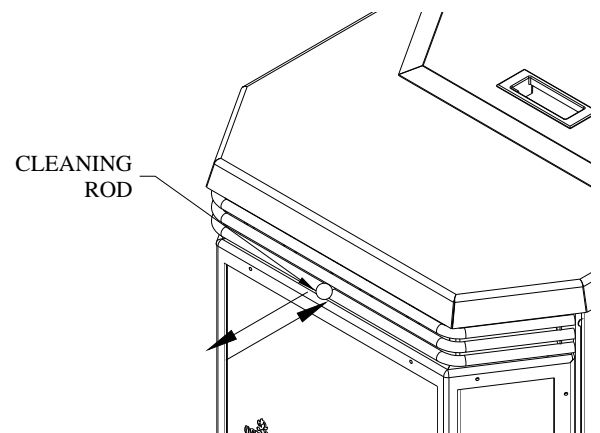

Figure 44
- a. **Heat Exchange Tubes** – Your HYBRID-35 stove is designed with a built-in heat exchanger tube cleaner. This should be used weekly to remove accumulated ash on the tubes. Slide the cleaning rod back and forth two or three times from front to back (refer to figure 44). When finished, push the cleaning rod back in, behind the louvers.